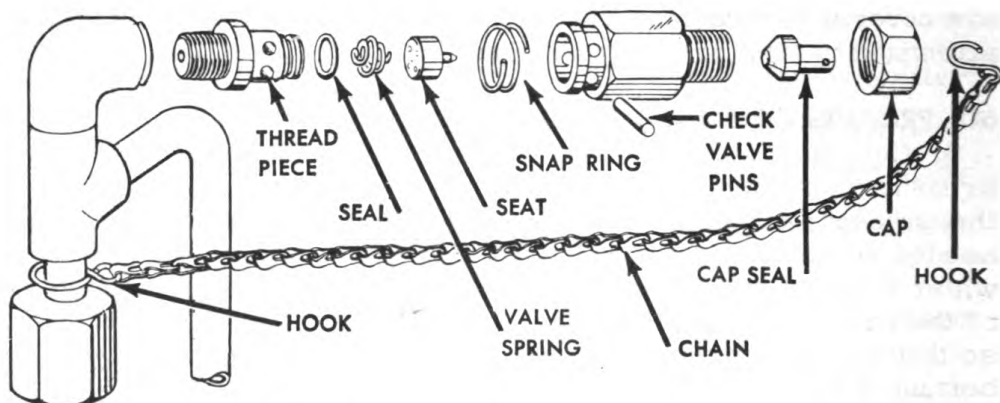

Fig. 55. Exploded view of pressure charging valve.
d. Disassembly. (1) Remove snap ring.
(2) Remove check valve pins.
(3) Separate parts of valve (fig. 55).
e. Assembly. (1) Replace parts in order shown in figure 55.
(2) Insert check valve.